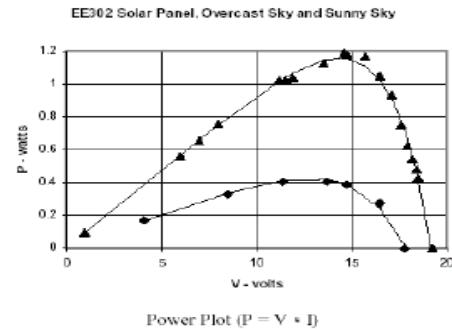

Figure 3. Sunny and Overcast I-V and P-V Plots
- Should have characteristics on overcast and sunny days as in Figure 3